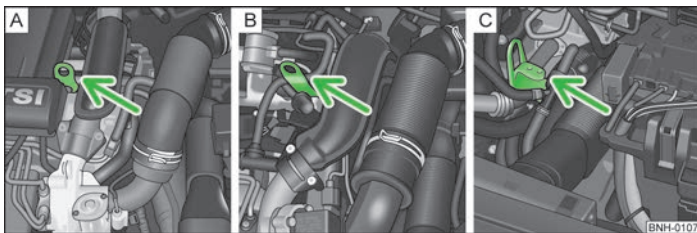

Fig. 118 Jump-starting – START-STOP system
- 1.2 ltr./63 kW TSI and 1.2 ltr./77 kW TSI engines » Fig. 118 - **A**
- 1.4 ltr./90 kW engine » Fig. 118 - **B**
- 1.6 ltr./77 kW TDI CR engine » Fig. 118 - **C**